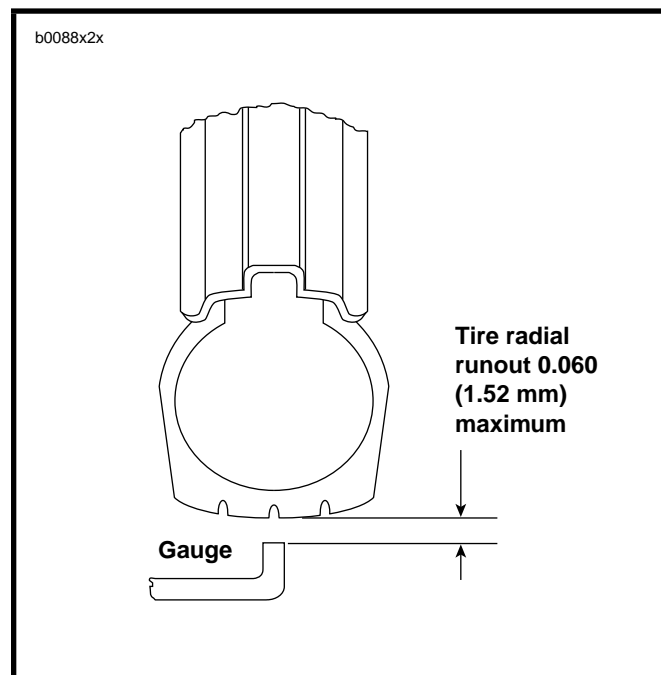

Figure 2-17. Checking Tire Radial Runout
1. See Figure 2-17. Turn wheel on axle and measure tread radial runout.